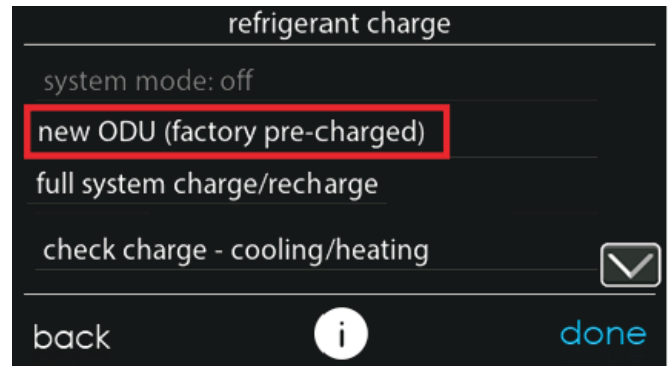

Fig. 13 – Refrigerant Charge Mode Selection
- For new installations, select "new ODU (factory pre-charged)" from the refrigerant charge screen to begin charging the system (Fig. 13). For applications where there is no charge in the ODU, select "full system charge/recharge".